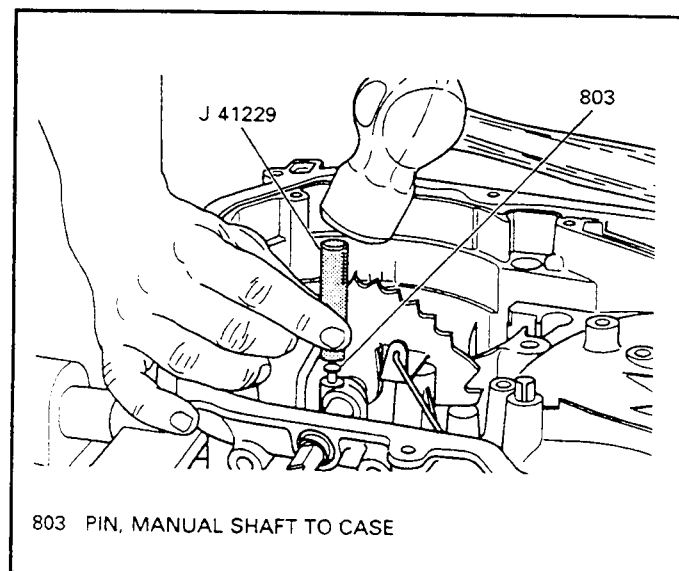

Figure 92
22. Install the manual shaft to case retaining pin (803) using installation tool J-41229 as shown in Figure 92.